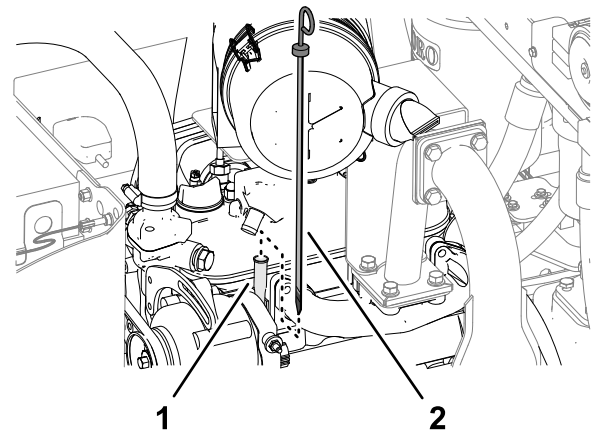

Figure 64
3. Remove the dipstick, wipe it clean, install the dipstick into the tube, and pull it out again. The oil level is correct when it is between the FULL and ADD marks (Figure 64).
4. If the oil level is low, remove the fill cap and add oil until it is between the FULL and ADD marks (Figure 64).